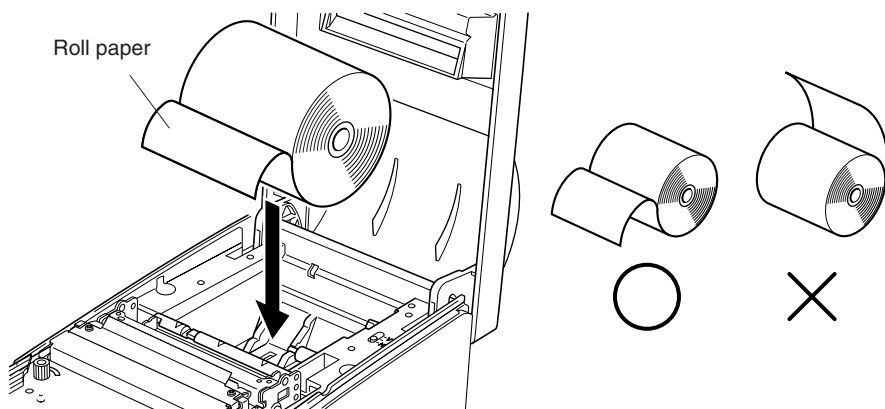

Fig. 5-5 Setting the paper
- ② Cut off the front edge of the roll paper perpendicularly.
- ③ Confirm that the power of the printer is turned on.
- ④ While observing the direction of the roll, set the paper roll into the hollow as shown in Fig. 5-5.